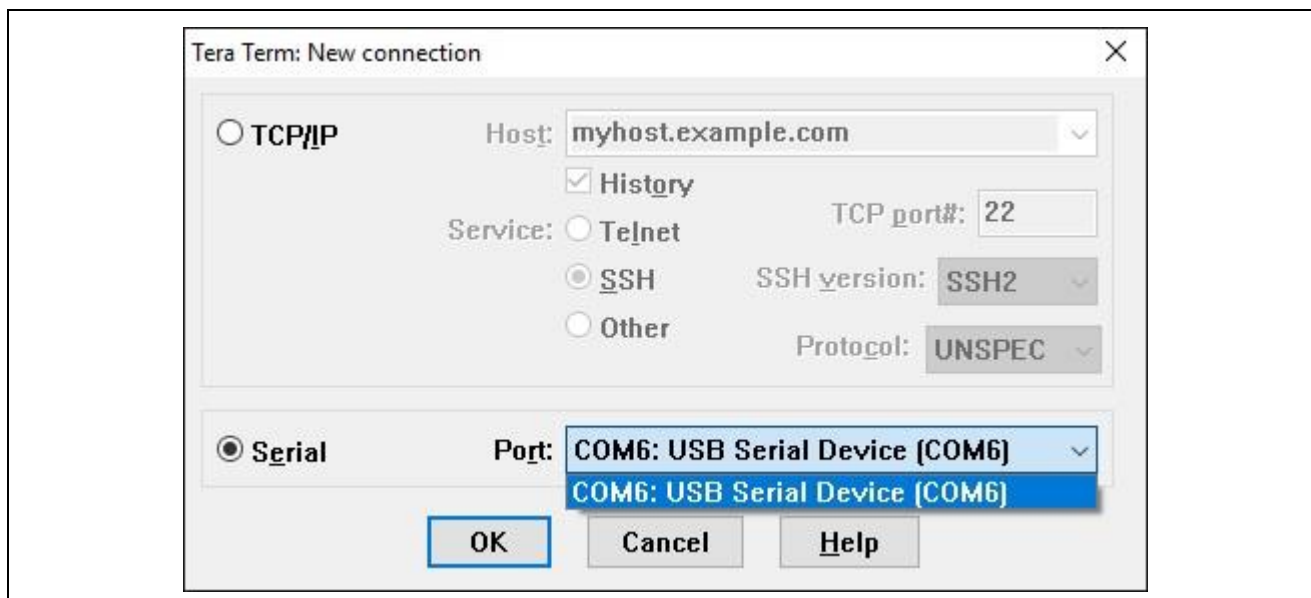
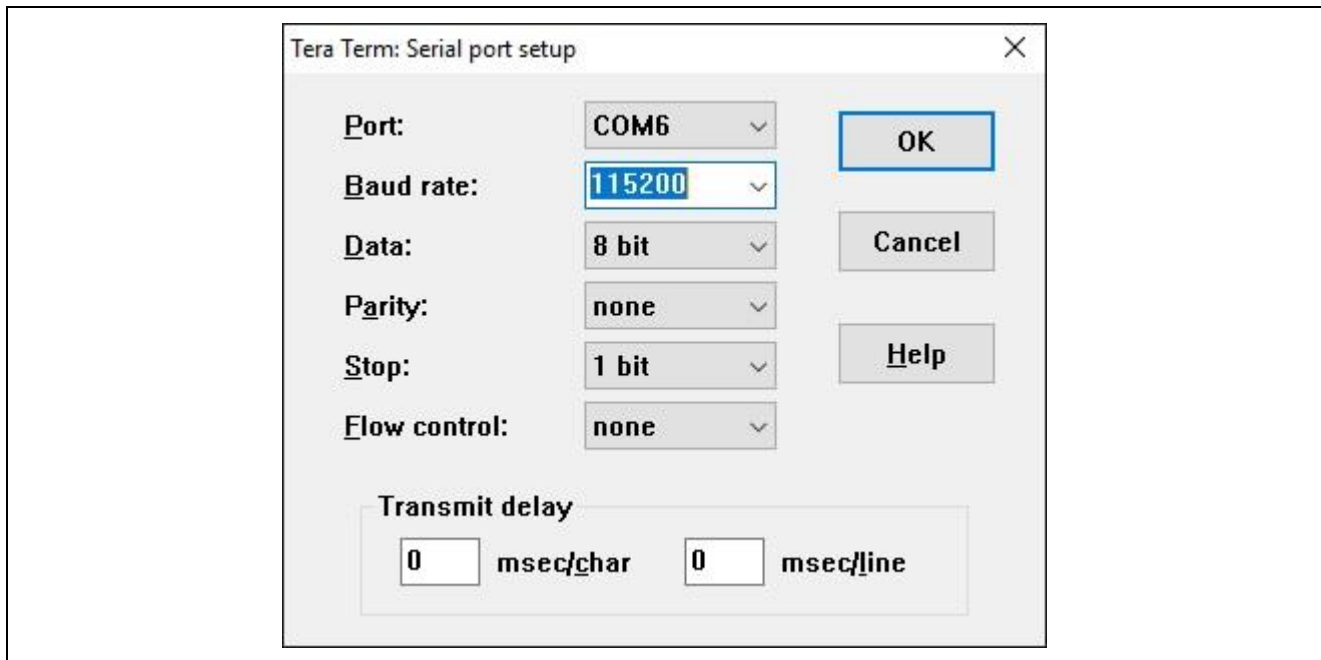

Figure 3-2 Create a Serial Connection
Figure 3-3 Serial Port Setup
3. Set up your terminal program (Figure 3-2 and Figure 3-3).